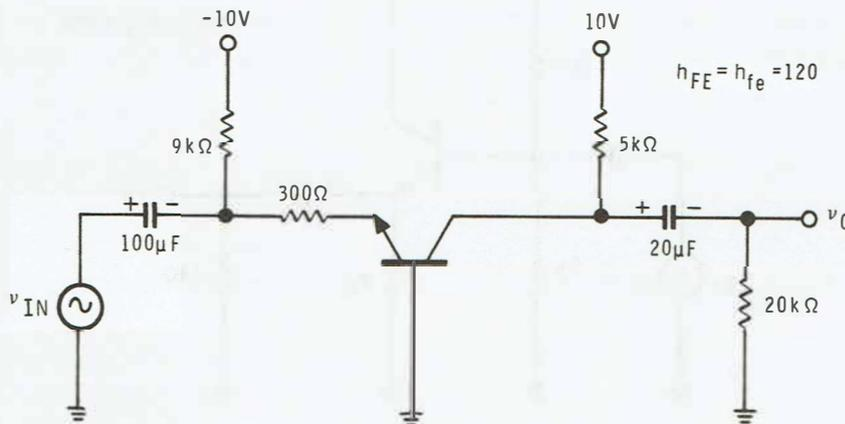

Figure 4-31
1. In Figure 4-31, the voltage gain is approximately:
2. In Figure 4-31, the circuit's input resistance is approximately:
3. In Figure 4-31, the output resistance is approximately: